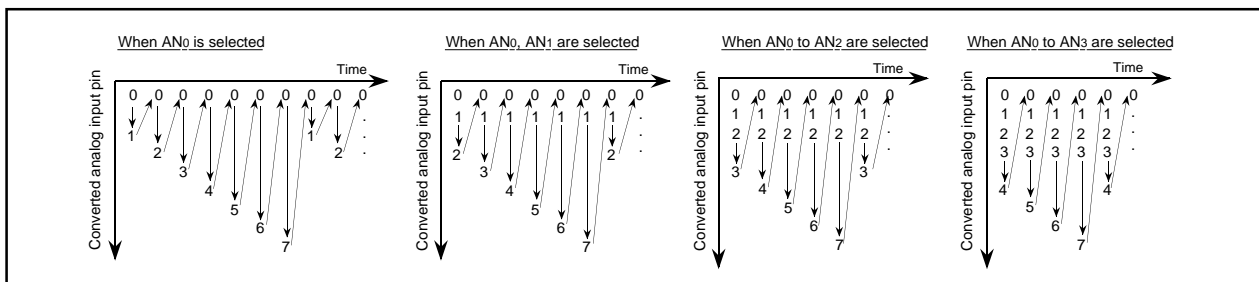
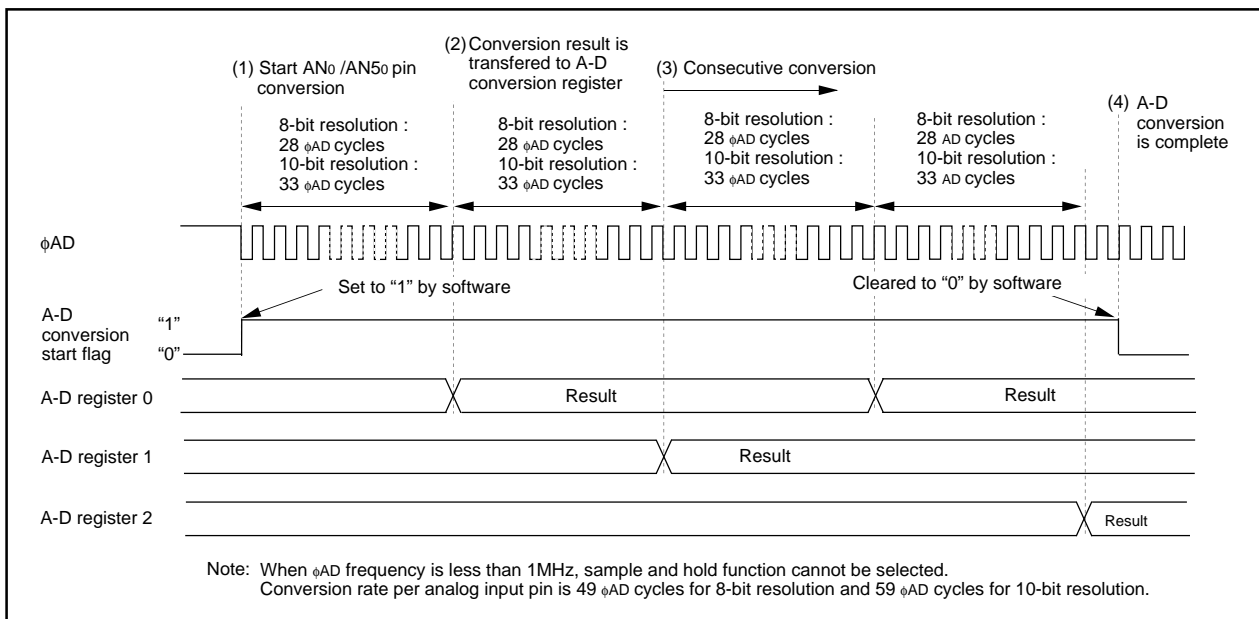

Figure 2.7.13. ANi pin's sweep sequence in repeat sweep mode
Figure 2.7.14. Operation timing of repeat sweep 1 mode
In repeat sweep 1 mode, choose functions from those listed in Table 2.7.6. Operations of the circled items are described below. Figure 2.7.13 shows ANi pin's sweep sequence, Figure 2.7.14 shows timing chart, and Figure 2.7.15 shows the set-up procedure.
- (1) Setting the A-D conversion start flag to "1" causes the A-D converter to start the conversion on voltage input to the AN0/AN50 pin.
- (2) After the A-D conversion on voltage input to the AN0/AN50 pin is completed, the content of the successive comparison register (conversion result) is transmitted to A-D register 0.
- (3) Every time the A-D converter carries out A-D conversion on a selected analog input pin, the A-D converter carries out A-D conversion on only one unselected pin, and then the A-D converter carries out A-D conversion from the AN0 pin again. (See Figure 2.7.13.) The conversion result is transmitted to A-D register i every time conversion on a pin is completed. The A-D conversion interrupt request bit does not go to "1".
- (4) The A-D converter continues operating until software goes the A-D conversion start flag to "0".